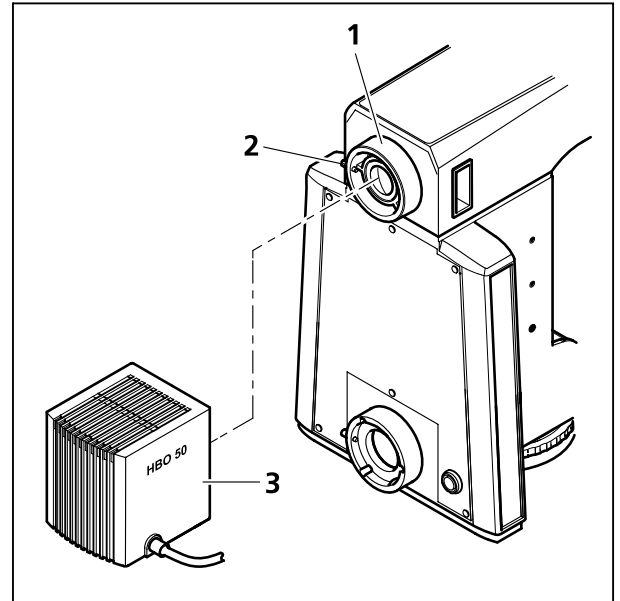

Fig. 3-29 Mounting the HBO 50
- Mount HBO 50 illuminator (Fig. 3-29/3) on the connection piece (Fig. 3-29/1) of the upper stand part, align it and tighten the clamping screw (Fig. 3-29/2).